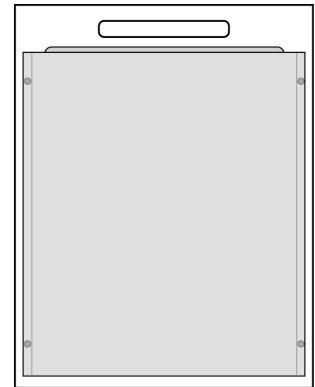

Figure 3: Placement
1. Place the BoXoR on the board so that it sits between the edge of the board and the handle. Be sure to allow at least 2" from the back edge to allow room for cables. See Figure 3.